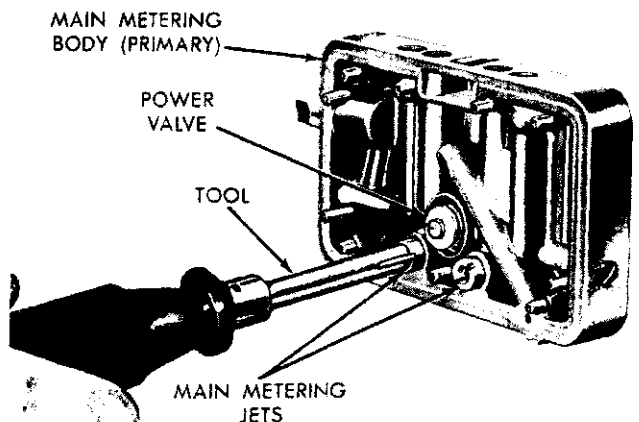

Fig. 8—Removing or Installing Main Metering Jets
(2) Using Tool C-3748, remove main metering jets. (Fig. 8).
(3) Remove idle adjusting needles and gaskets.
(4) Turn idle limiter caps to stops. Remove caps by prying off ends of screws, using a suitable tool. (Be careful not to bend screws.) Be sure and count number of turns to seat the screws, as the same number of turns (from the seat) must be maintained at installation. Remove screws and springs from metering body.
(3) Install main metering jets (Fig. 8), using Tool C-3748. Tighten securely.